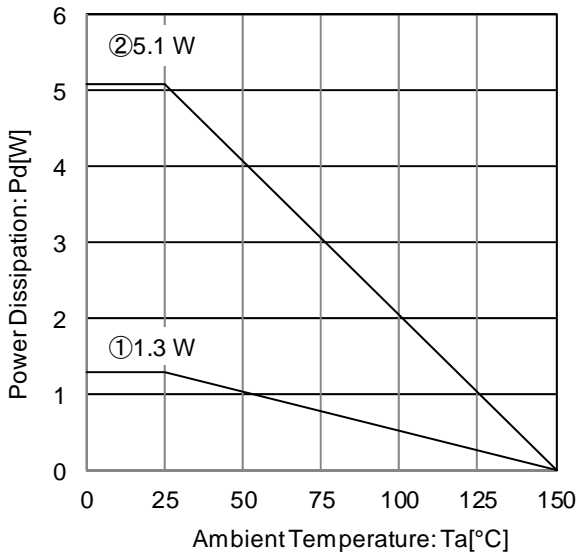

Figure 25. Package Data (TO252-3)
Refer to the heat mitigation characteristics illustrated in Figure 25 when using the IC in an environment of $T_a \geq 25^\circ\text{C}$. The characteristics of the IC are greatly influenced by the operating temperature, and it is necessary to operate under the maximum junction temperature T_{jmax} .
Figure 25 show the power dissipation and heat mitigation characteristics of the TO252-3 package. Even if the ambient temperature T_a is at 25°C it is possible that the junction temperature T_j reaches high temperatures. Therefore, the IC should be operated within the power dissipation range.
At $T_a=125^\circ\text{C}$ with Figure 25 ② condition, the calculation shows that ca 100mA of output current is possible at 10.2V potential difference across input and output.
At $T_a=125^\circ\text{C}$ with Figure 25 ② condition, the calculation shows that ca 120mA of output current is possible at 8.5V potential difference across input and output.